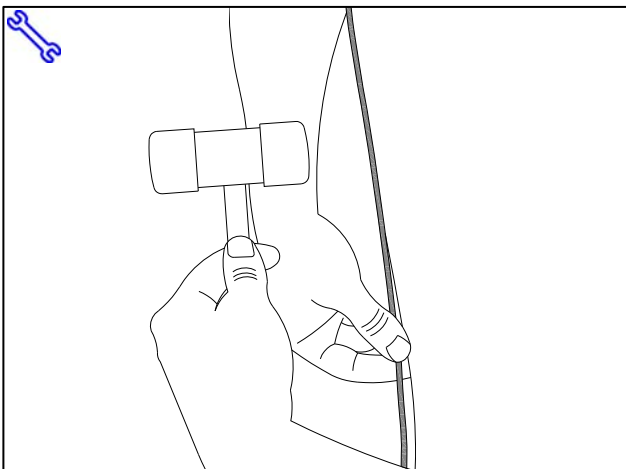

Fig. 1-12
- (o) Once the top of the DEG channel is seated on door edge, continue tapping the channel onto door edge moving toward the bottom of door. Use your other hand to steady and guide the DEG as you go. (Fig.1-12)